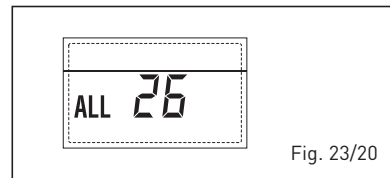

Fig. 23/20
- **ERROR SOLAR APPLICATION COMPATIBILITY "ALL 27" (fig. 23/21)**